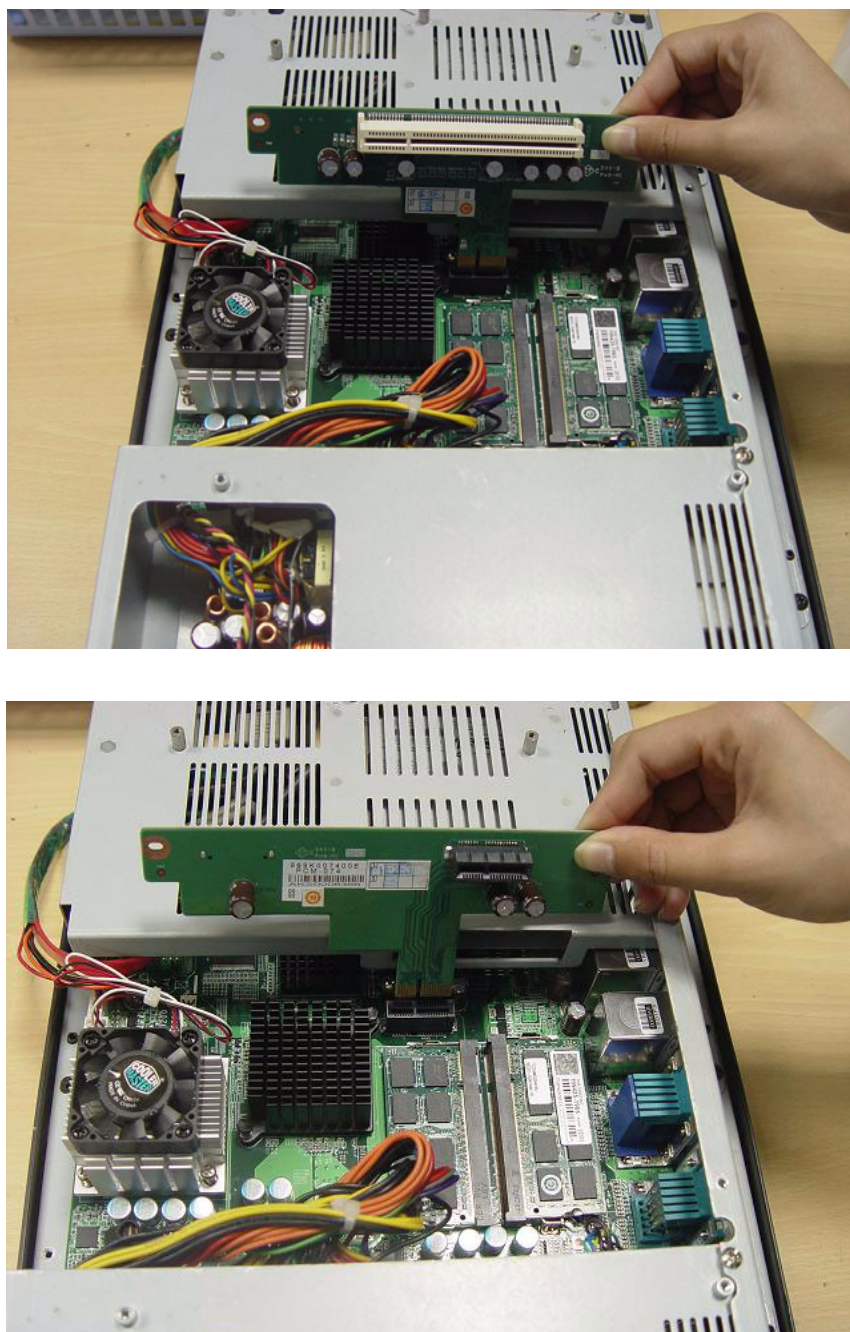

Figure 3.2 PCI & PCI-E Bus Expansion
4. Insert the PCI bus card into the PCI slot of the riser card. (See Figure 3.2)